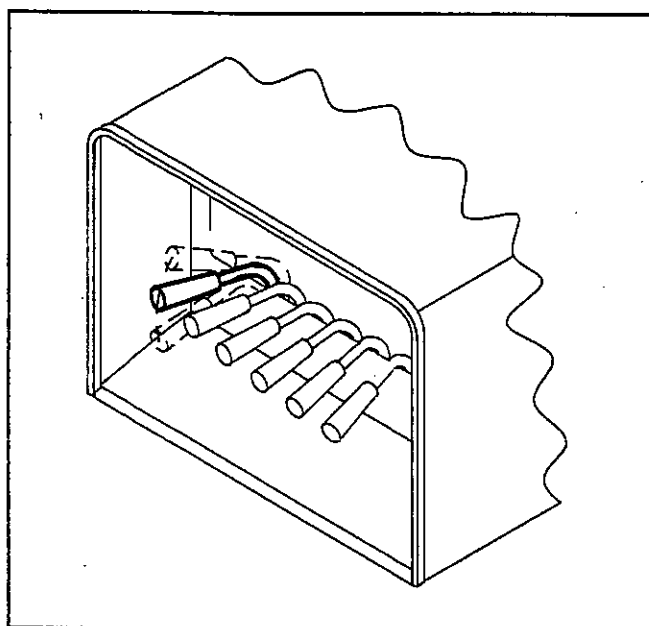

Figure 5-1 Bed and Subframe Tilt Control
**NOTE:** The bumper has to be up to allow the sub-frame and bed to tilt up. See Fig. 5-1 for handle positions.